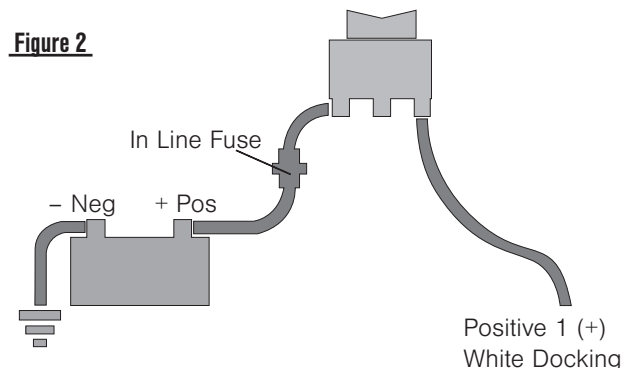

Figure 2
6. Use marine-grade waterproof connectors to connect white wire to (+) positive lead from 2-position switch. Connect (-) negative source to black wire and route to (-) negative terminal on battery or proper negative terminal (see figure 2).